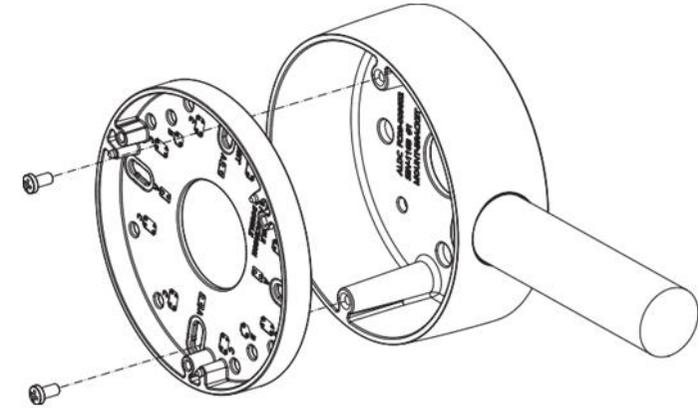

Figure 3
7. Assemble the mount plate and back box (Figure 3) using 8x4mm screws.